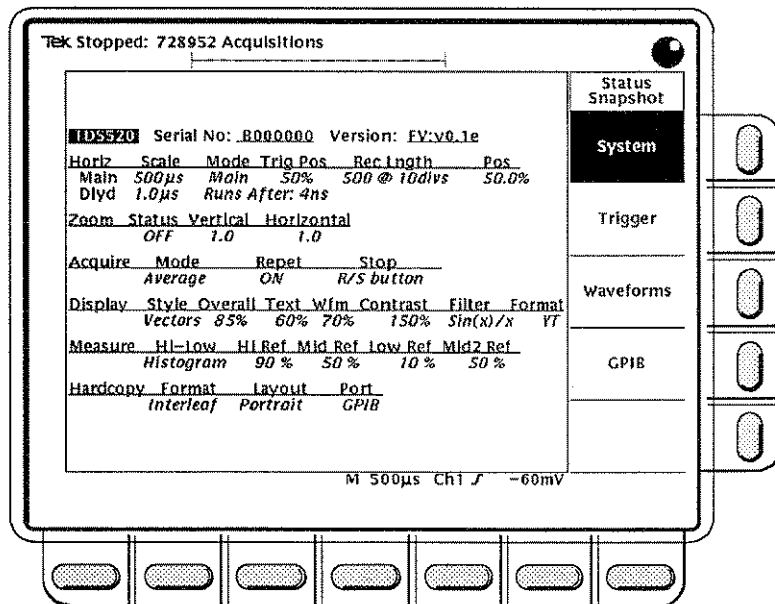

Figure 3-64: Status Menu – System Shown
- Step 1:** Press the **STATUS** button (**SHIFT** and **HELP**) to bring up the Status side menu (Figure 3-64).
- Step 2:** Select **System** from the menu to display information about the Horizontal, Zoom, Acquisition, Display, Measure, and Hardcopy systems (Figure 3-64).